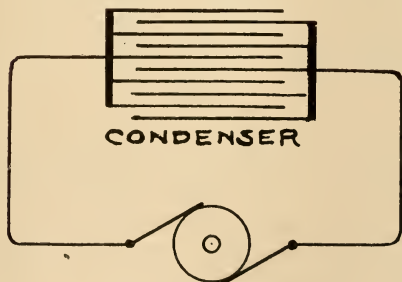

FIG. 2.
a current of air will flow through the pipes in the reverse direction. But if we imagine a pump that will force air alternately in each direction, the alternations succeeding each other very rapidly, the capacity of the reservoir will permit a flow of air back and forth in the pipes, in spite of the partition (P). A condenser operates in an electrical circuit much as the reservoir does in this pipe circuit. The more rapid the alternations the less perceptible is the interference of the partition, or insulator. Fig. 2 is a diagram of a condenser in an electrical circuit.